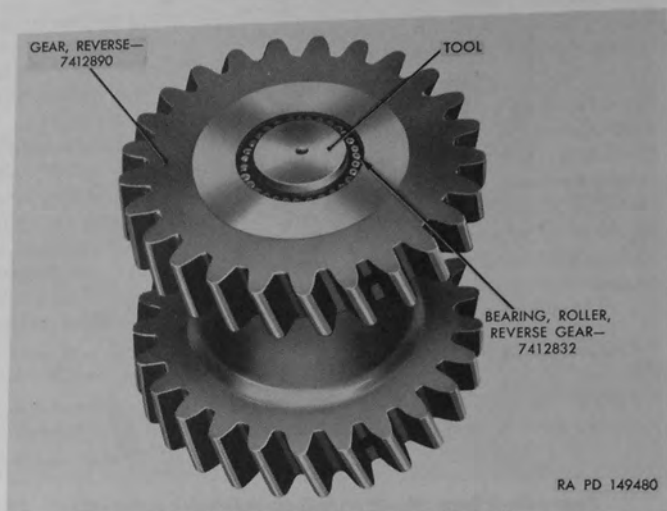
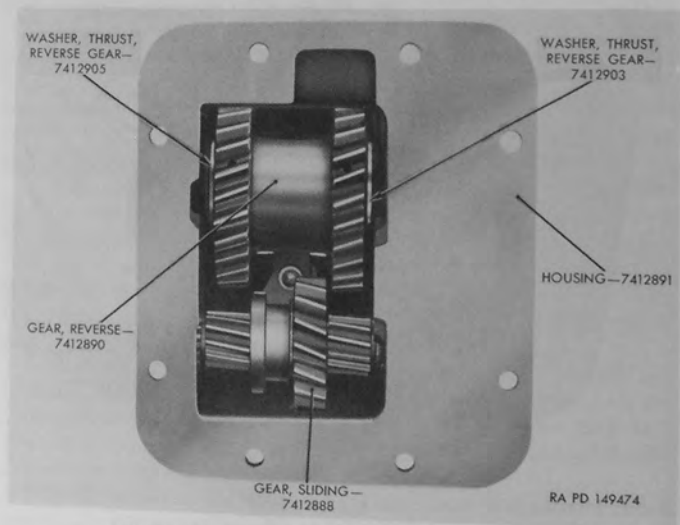

Figure 94. Assembling rollers in reverse gear.
Figure 95. Power take-off reverse gear installed.
a. Remove reverse shaft retaining plate (T) attached to power take-off housing with cap screw and lock washer.
b. Using hammer and brass drift, drive reverse gear shaft (U) forward, and remove from housing. Remove reverse gear and reverse gear thrust washers (fig. 95) together with reverse gear roller bearings (Z), reverse gear bearing thrust washers (W), and reverse gear bearing spacer (X).
a. Coat reverse gear thrust washers and bore of reverse gear (Y) with universal gear lubricant (GO).
b. Set reverse gear (Y) on end on work bench. Using a tool made of metal or wood approximately 1.100-inch in diameter and long enough to extend through gear, assemble 30 reverse gear roller bearings (Z) around tool. Use reverse gear bearing spacer (X) to push bearings down to lower side of gear; then assemble 30 more bearings around tool as shown in figure 94.
c. Start reverse gear shaft (U) through boss at front side of housing with end of shaft slightly beyond inside surface of case. Locate one reverse gear thrust washer (V) on end of reverse gear shaft (U).
d. Lay reverse gear (Y) on side and place one reverse gear bearing thrust washer (W) against rollers at each end of reverse gear. Position reverse gear in housing as shown in figure 95. Note that end of gear with rounded teeth must be toward front of housing.
f. Position reverse shaft retaining plate in slot in shaft and install one $\frac{5}{16}$ -18 x $\frac{3}{4}$ cap screw (R) and $\frac{5}{16}$ -inch lock washer (S) to hold retaining plate in place.